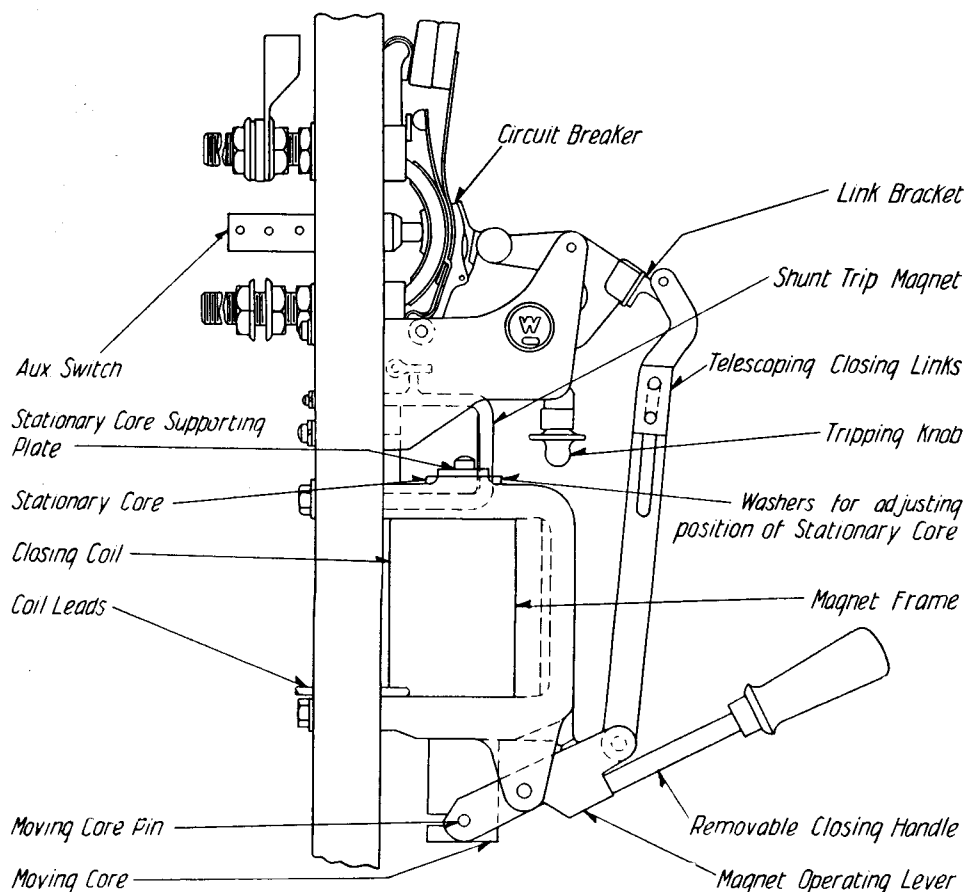

FIG. 15—SOLENOID CLOSING MECHANISM
**Solenoid Closing Mechanism (Figure 15)**—Circuit-breakers for electrical remote control are equipped with our standard closing solenoid and shunt trip attachments. The closing solenoid coils have a short time rating and in order to avoid burning them out must be cut out of circuit as soon as the breaker is closed and latched. This is ordinarily done by means of a control drum switch and a small contactor which is connected in series with the closing coil. When
When transferring a solenoid operated breaker from one panel to another, care should be taken to see that the stationary core of the closing magnet is adjusted so as to give a slight overtravel on the breaker latch when the breaker is closed electrically. This adjustment may be made by adding or removing washers under the supporting plate of the stationary core. See Figure 15.